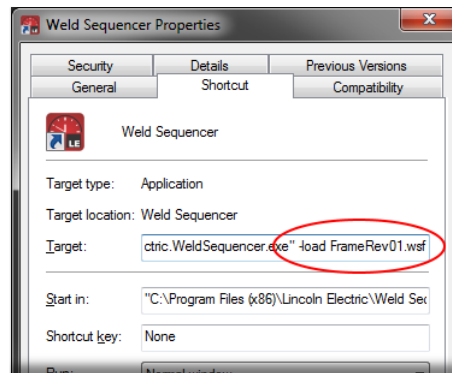

Figure B.4 Loading a Sequence by Command Line
1. Right-click the Weld Sequencer shortcut and select Properties from the pop-up menu.	The Properties window opens (Figure B.4).